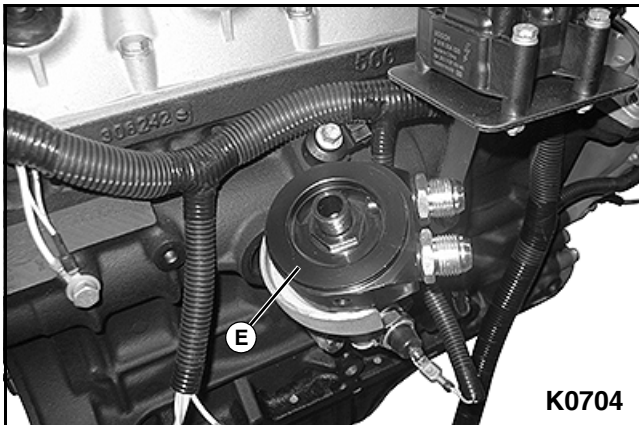

Figure 5-16
5. Wipe the oil filter installation surface (E) clean with a dry cloth. Inspect the installation surface for damage. **See Figure 5-16.**